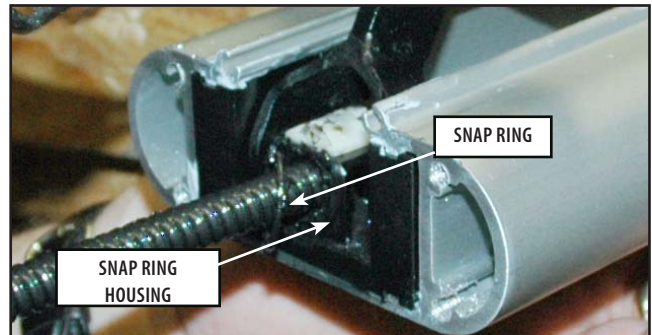

FIGURE 6.17
14. Using Snap Ring pliers, remove the snap ring inside of the Frame Base to release the Ball Screw. **Refer to Figure 6.17.**